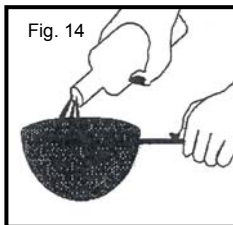

Fig. 14
- Refill the oil container with the oil, pouring the oil through a wire strainer or paper filter. (Fig. 14)